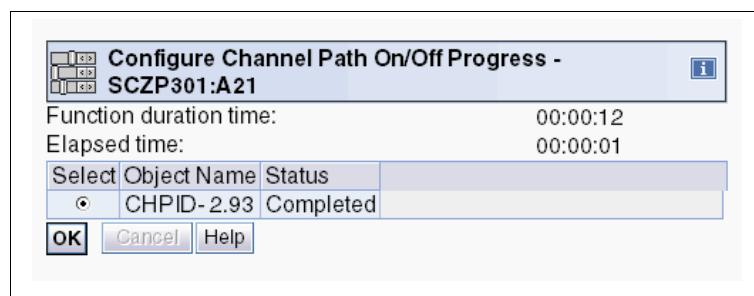

Figure 7-18 Result of toggle action
13. When the status change completes, you are presented with a status panel as shown in Figure 7-18.